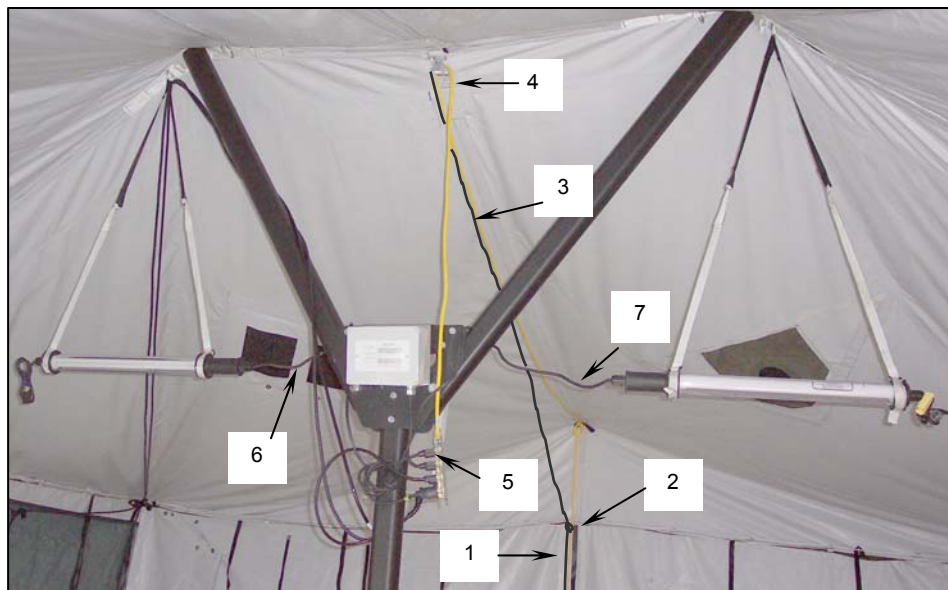

Figure 6. Connecting Electric Lights to Power Source.
- a. Using the step ladder, run the outlet end of the 100-ft extension cord (**Figure 6, Item 1**) up the tent wall opposite the tent center pole and secure with a tent strap (**Figure 6, Item 2**).
- b. Run the outlet end of the 100-ft extension cord across the tent ceiling (**Figure 6, Item 3**) and through the strap buckles at the top of the tent (**Figure 6, Item 4**).
- c. Suspend the outlet end of the extension cord (**Figure 6, Item 5**) next to the “Y” of the tent center pole.
- d. Plug the power cords for both lights (**Figure 6, Item 6**) and (**Figure 6, Item 7**) into the outlets (**Figure 6, Item 5**).